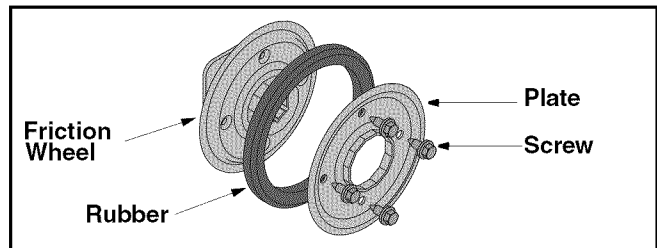

Figure 21
- Remove the four screws from the friction wheel assembly. Remove friction wheel rubber from between the friction wheel plate. See Figure 21.
- Reassemble new friction wheel rubber to the friction wheel assembly, tightening the four screws in rotation and with equal force. See Figure 21.